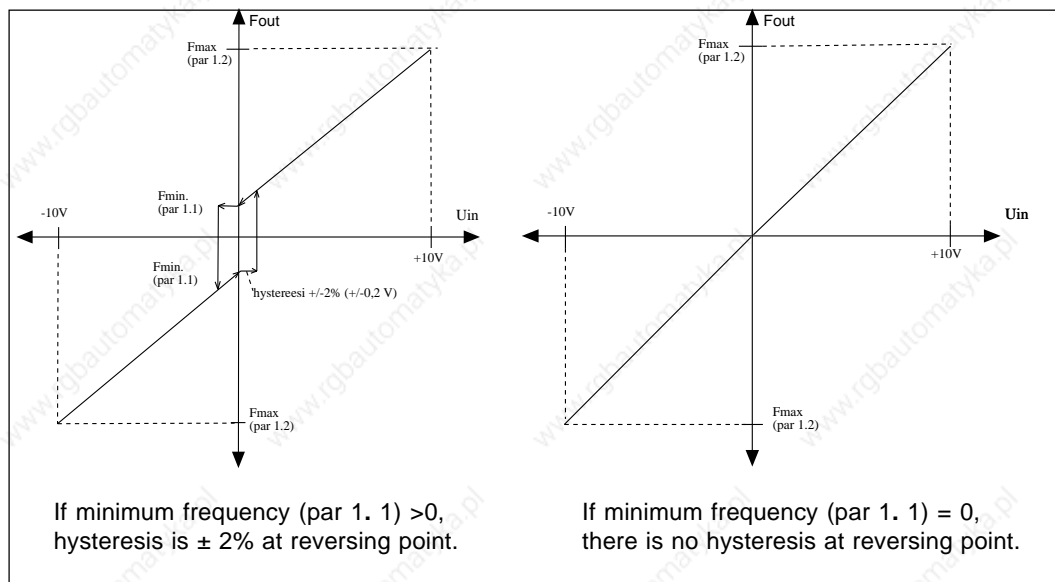

Fig. 5.4-1 Joystick control  $U_{in}$  signal -10 V—+10 V.
**Note!** When joystick control is used, the direction control is generated from the joystick reference signal. See figure 5.4-1.